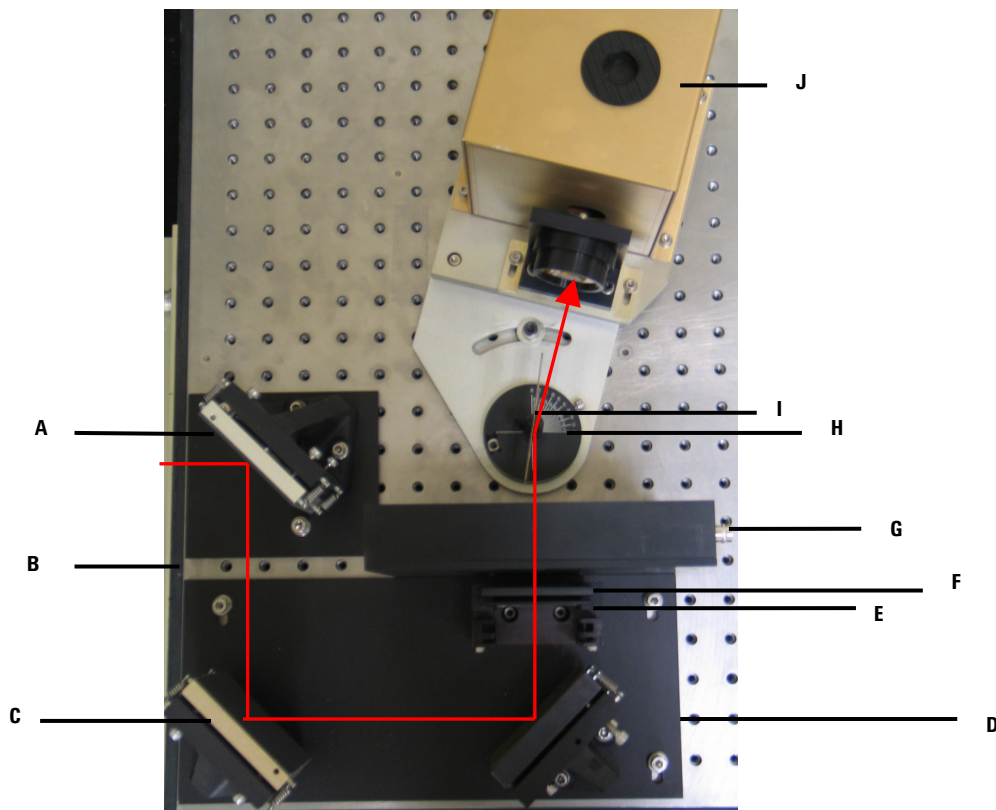

Figure 1. Agilent PM-IRRAS accessory beam path with cover removed for clarity
The infrared beam exits the spectrometer and is directed by two flat mirrors (A and C in Figure 1) to the parabolic mirror (D) for focusing.